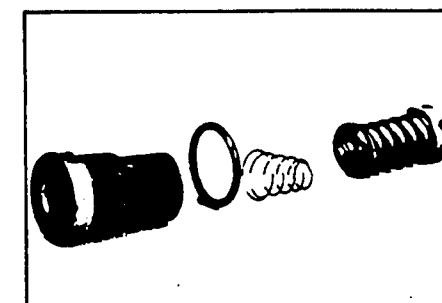

Figure 62
21. If relief valve components items #21, #22, #24 were removed from the end cover (2) assemble a new o-ring (22) on the two plugs (21). Assemble a two piece relief valve (24) in each of the plugs, with the large end of the conical spring into the plug first and the small nut of the other valve piece in the small end of the conical spring. Turn each of the plug and relief valve assemblies into the end cover loosely to be torqued later. 3/8 inch Allen or 1 inch Hex socket required. SEE FIGURE 62.